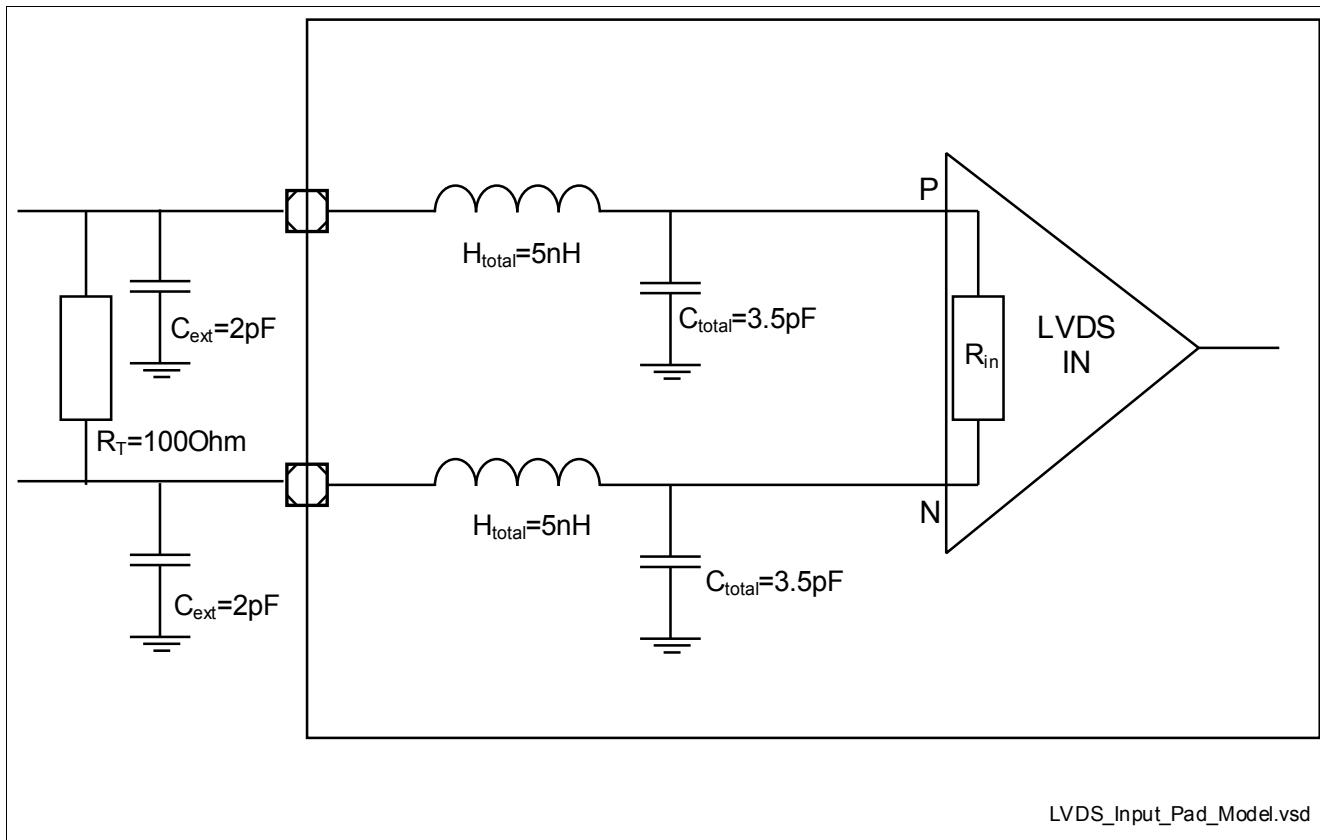

Figure 3-1 LVDS pad Input model
*Note: R_T in table 'LVDS - IEEE standard LVDS general purpose Link (GPL)' is as termination resistor of the receiver according to figure 3-5 in IEEE Std 1596.3-1996 and is represent in **Figure 3-1** either by R_{IN} or by $RT=100$ Ohm but not both.*